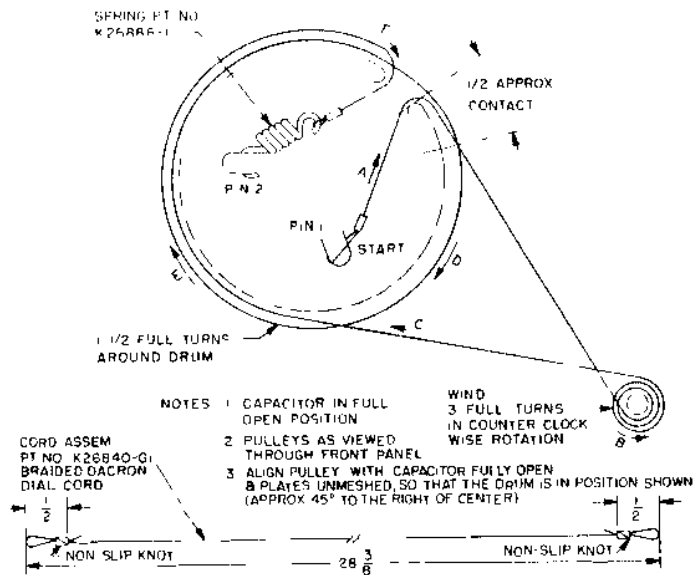

Figure 8. Restringing the VFO Drive Mechanism
3. Make up the dial drive cables as shown in figures 8 and 10.
4. Place the loop end of the VFO drive cable over pin 1 on the tuning drum. Following the lettered sequence shown in figure 8, string the VFO drive cable on the drum and anchor the spring over pin 2 of the tuning drum.